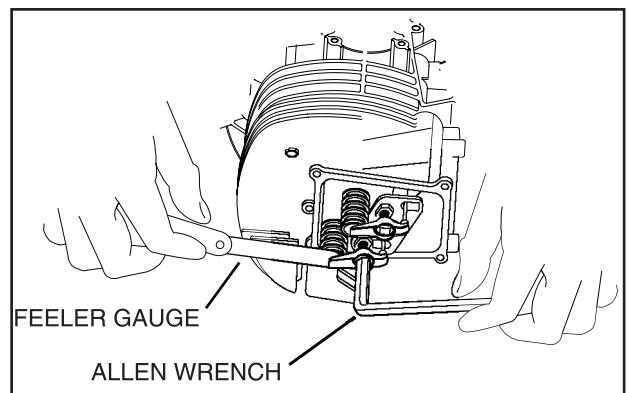

Figure 7-41 – Adjusting Valve Clearance
- Loosen the rocker arm jam nut. Use a 10mm allen wrench to turn the pivot ball stud while checking the clearance between the rocker arm and valve stem with a feeler gauge (see Figure 7-41).